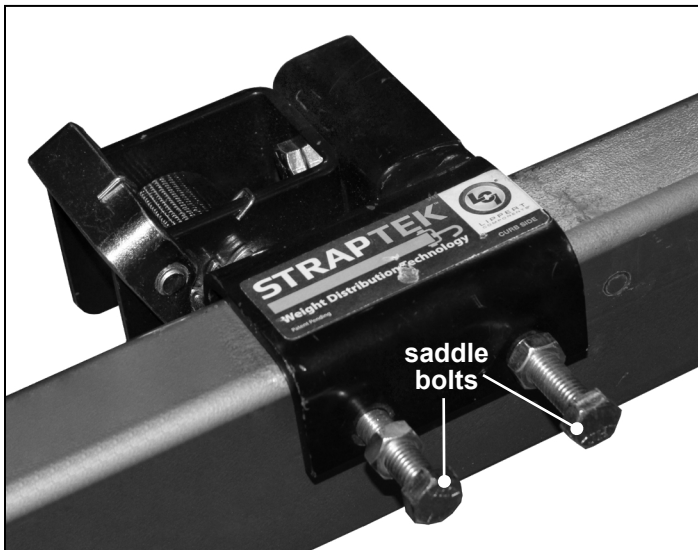

Fig. 1
1. Place Straptek® tensioners on the A-frame. Do not tighten saddle bolts at this time (Fig. 1).
5. Finger tighten the saddle bolts (Fig. 1).